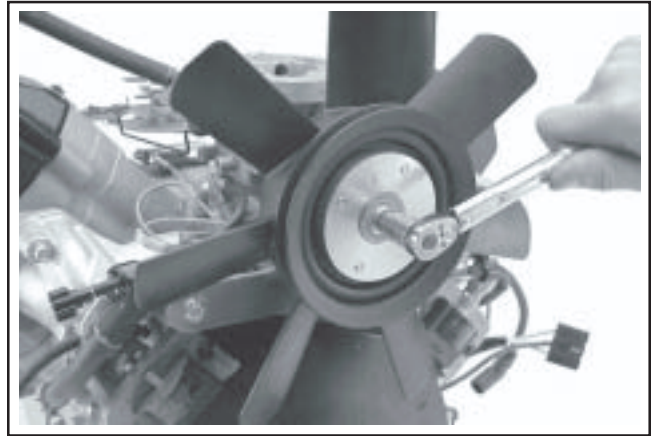

Figure 11-97. Torquing Upper Pulley Assembly.
7. Apply Loctite® No. 242 to the front threads of the fan shaft. Install the flat washer and the hex. flange nut to secure. Torque hex. flange nut to **15.8 N·m (140 in. lb.)**. See Figure 11-97.